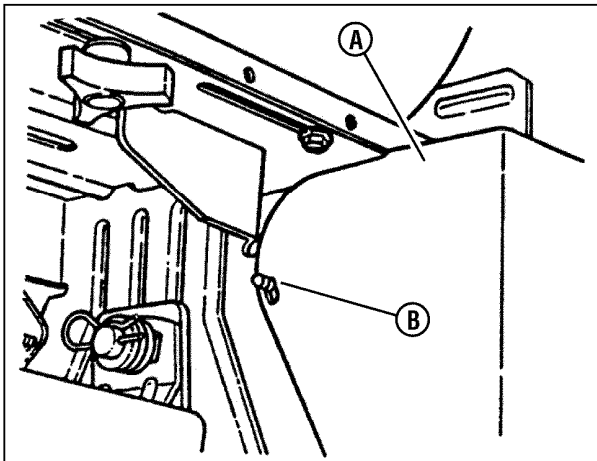

Figure 48: Removing the battery cover
1. Carefully pull each side of the battery cover (**A**, **Figure 48**) away from the ratchet fasteners (**B**) and remove the cover.
5. Reinstall the battery cover (**A**, **Figure 48**).
12. Reinstall the battery cover (**A, Figure 48**).